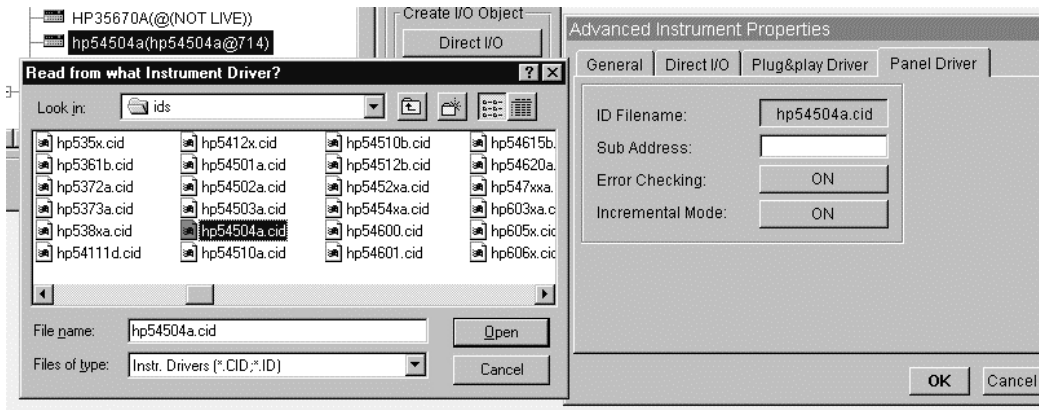

Figure 4.3. Interfacing with an Instrument Driver
14. Click on the blank space to the right of ID Filename: A list of instruments will appear entitled: Read from what Instrument Driver? Select hp54504a.cid by clicking on Open. See Figure 4.3.